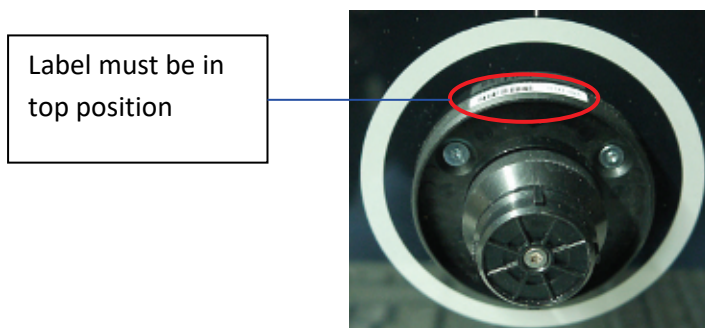

Fig. 42: Position of the label on the cap holder of the rotary/push button
- Attach the holder of the rotary/push button so that the white label on the side of the cap holder is in top position (see Fig. 42).
7. Reattach the button (cap) of the rotary/push button at the glass front. In neutral position, the „Engel“ writing on the button should be horizontal (see Fig. 42).